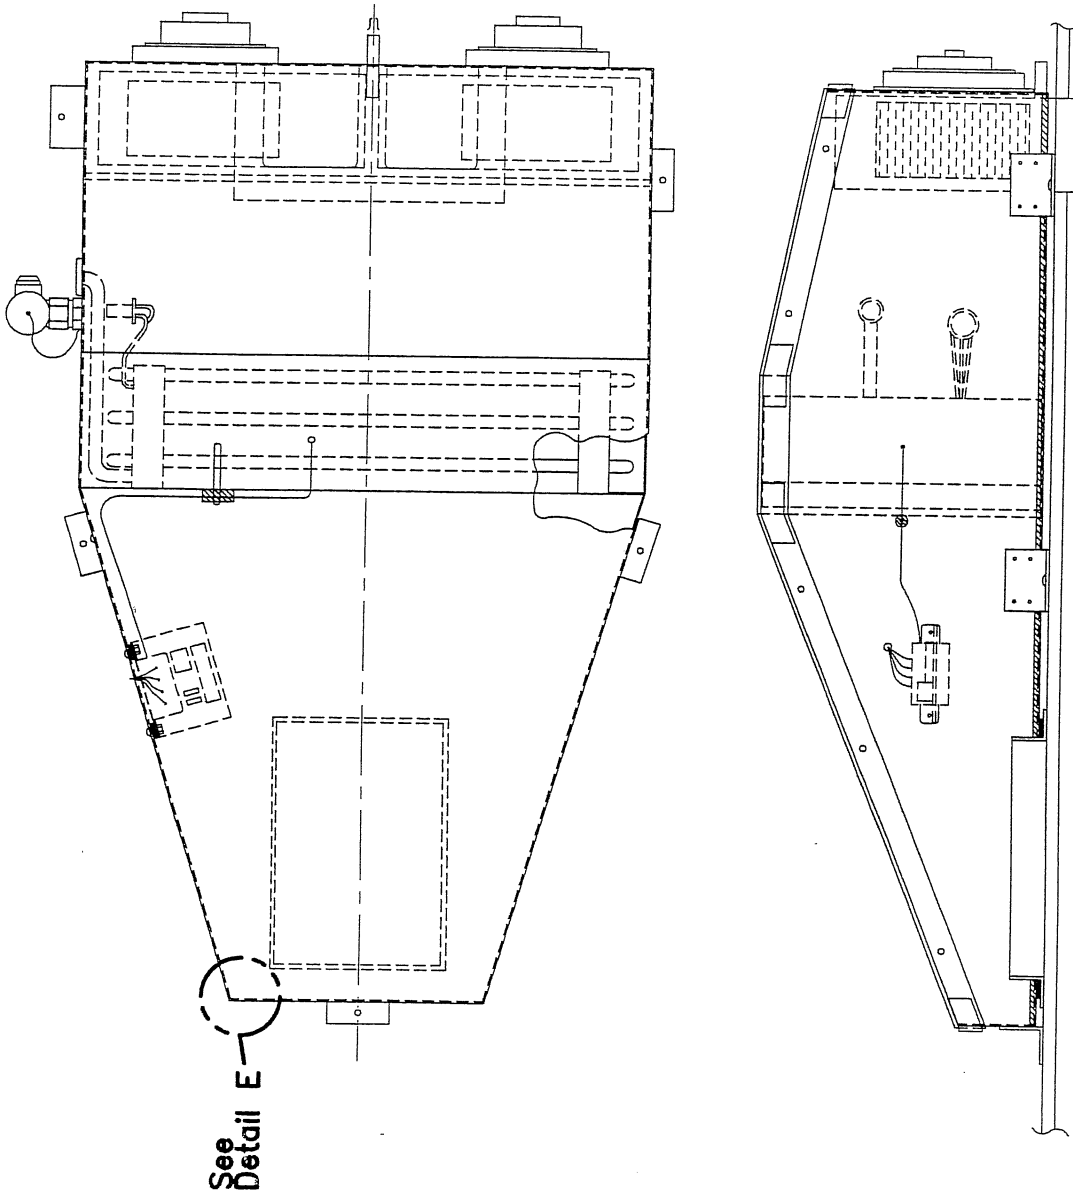

Figure 1-1 View looking Inboard & Down
2. Locate the forward right hand corner of the aft evaporator housing as shown in figure 1-1, Detail "E".